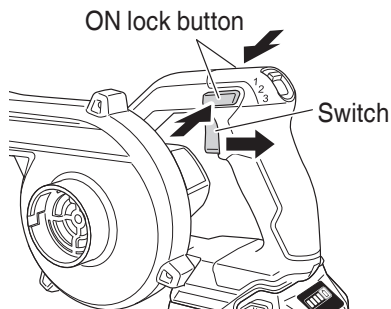

Fig. 13
- **Switch operation (Fig. 13).**
- **Continuous operation (Fig. 13)**